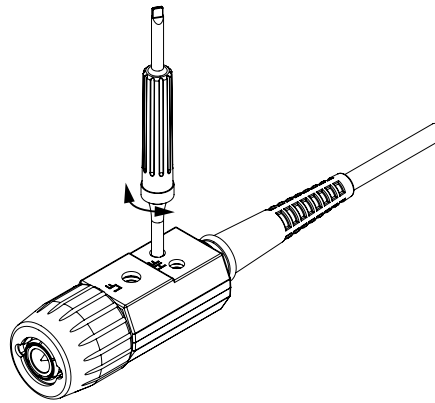
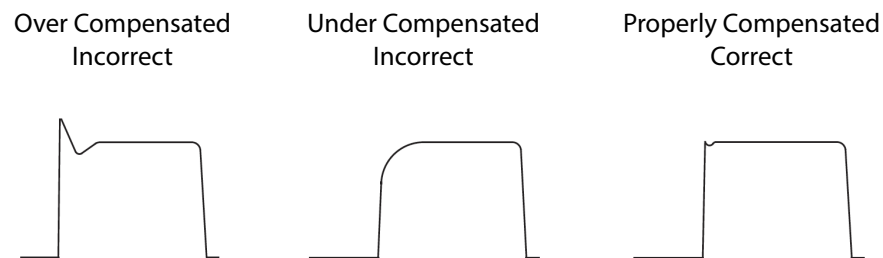

Figure 9 High-Frequency Adjustment Points
Figure 10 High-Frequency Compensation Waveforms
11. Using supplied trimmer tool, alternately adjust the two High-Frequency Adjustment points (Figure 9) for flat-topped square waves. Figure 10 shows the correctly compensated waveform.